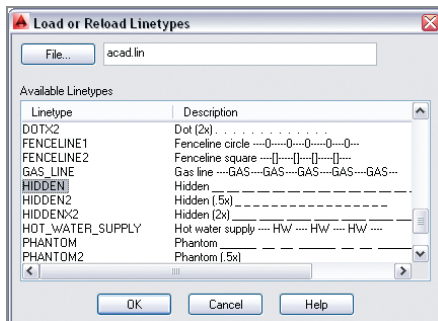

FIGURE 6.20 Loading the Hidden linetype
3. In the Linetype Manager dialog box that appears, click the Load button. Scroll down in the Load Or Reload Linetypes dialog box that appears, and select Hidden in the list (see Figure 6.20); then click OK. Hidden now appears in the Linetype Manager dialog box because this particular linetype style has been loaded in the drawing file; click OK to close the Linetype Manager dialog box.